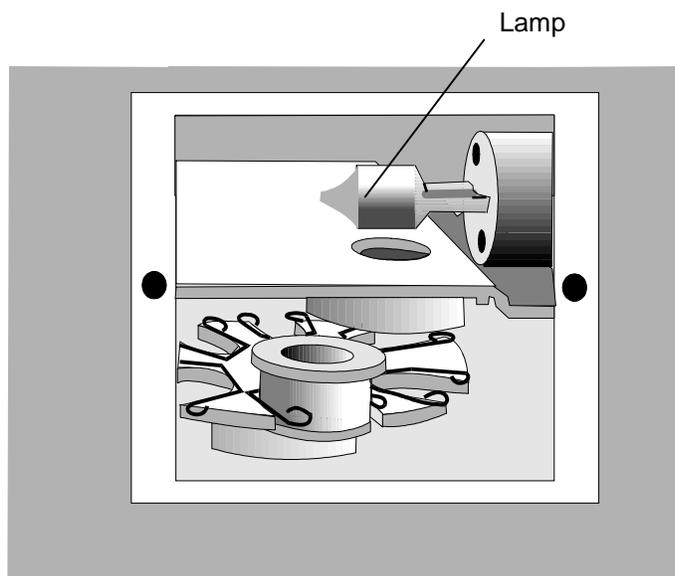

Figure 34. Optical Assembly
2. Remove the filter access panel to expose the optical assembly. The bulb is mounted in the upper portion of the optical assembly as shown in Figure 34.
2. Remove the filter access panel. The filters are mounted on the filter wheel as shown in Figure 34.
1. Remove the filter access panel. The filters are mounted on the filter wheel as shown in Figure 34.